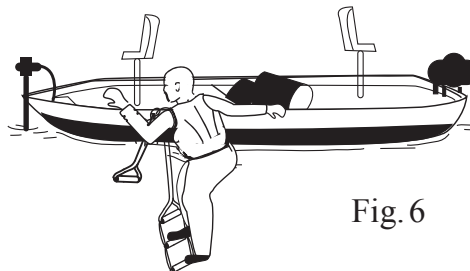

Fig. 6
6. Step up the steps and pull upper body into the vessel. If re-entering a small vessel or dinghy, expect the vessel to list toward you as you pull up. As soon as possible, reach to the opposite side of the vessel to assist in pulling your upper body into the vessel. (See FIG. 6)